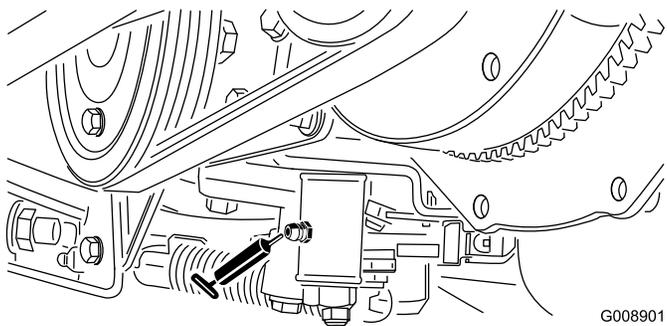

Figure 60
- Neutral adjust mechanism (Figure 60)